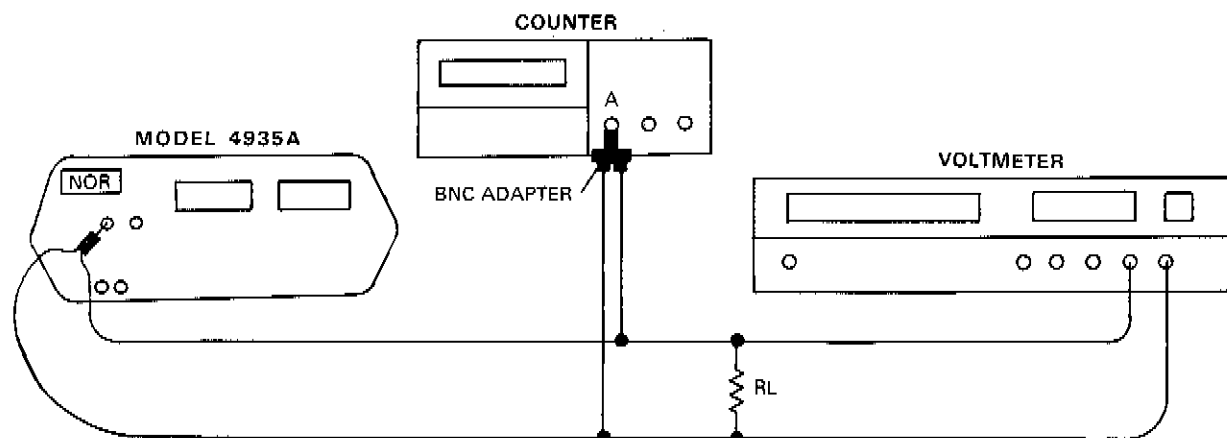

Figure 4-1. Transmitter Flatness Test at +10 dBm
1. Connect Voltmeter to the 4935A TRMT jack as shown in Figure 4-1.